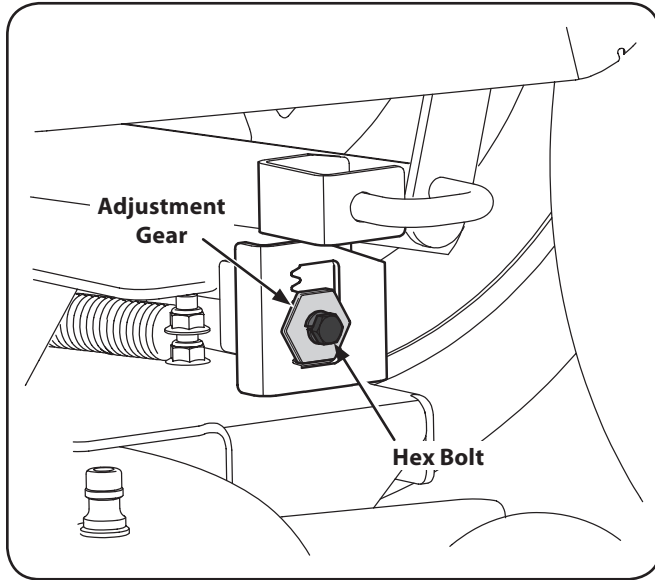

Figure 6-11
- Loosen, but do NOT remove, the hex bolt on the left deck hanger bracket. See Fig. 6-11.
- Using a wrench, raise or lower the left side of the deck by turning the adjustment gear. See Fig. 6-11.